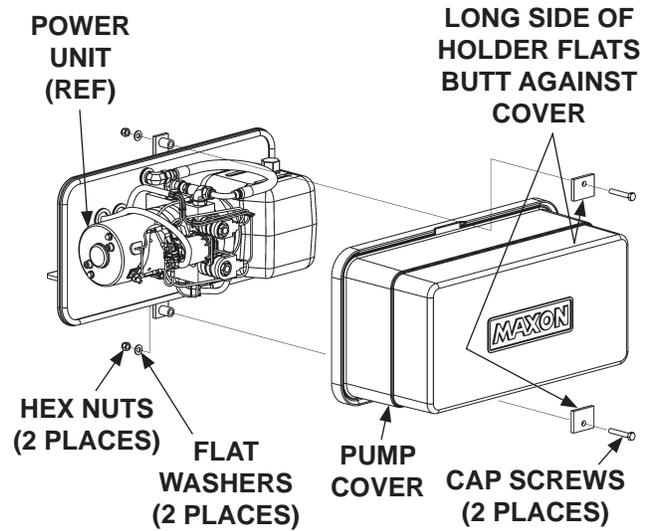

FIG. 7-1
10. Bolt on the pump cover (**FIG. 7-1**).